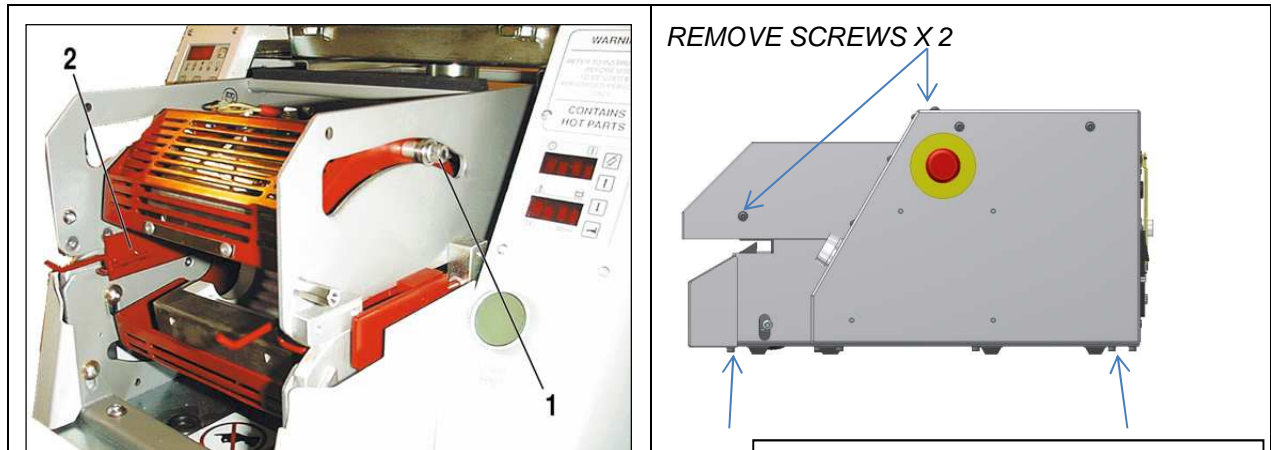

Fig. 4-6: Heater Chamber in 1st Position
3. **Pull the heater chamber forward to the 1st position (Figure 4.6.). Pull the heater blades forward to free the chamber and continue moving the heater until it is fully forward (Figure 4.7.).**
4. **Remove the upper bearing screws and bearing assembly (Figure 4.6. (1)).**
**If increased access is required remove the upper heater bearing assemblies as shown in figure 4.6. And open the heater jaws.**